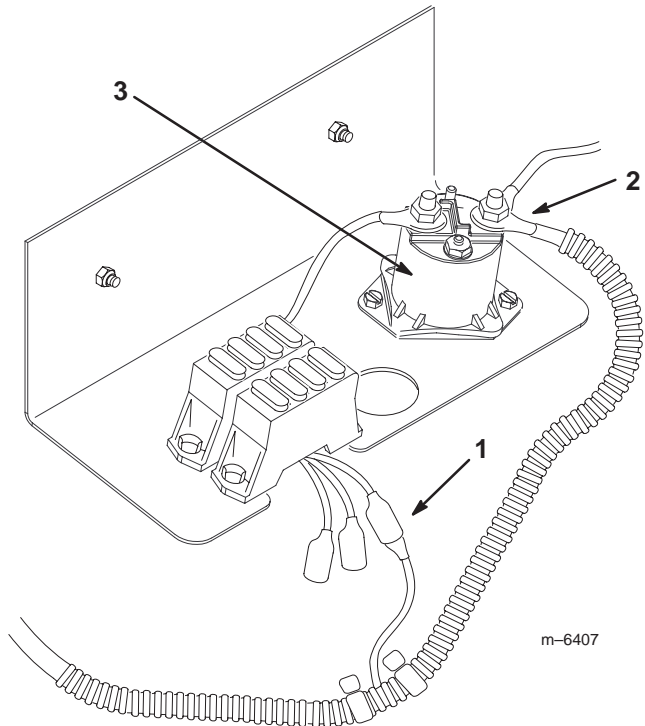

**Figure 6**
2. Connect the white connector on the wire harness to the port on the back of the alternator (Fig. 6).
3. Connect the eye-ring terminal on the red wire to the stud on the alternator (Fig. 6).